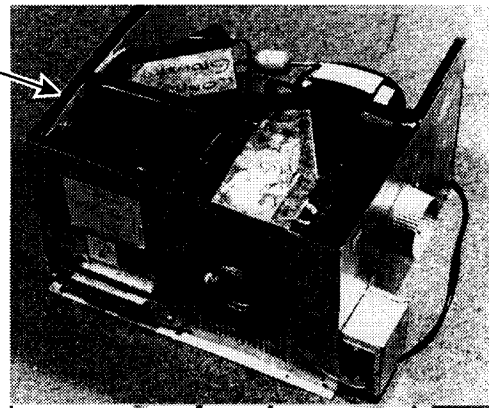

Figure 32
30. Install 61 inches of .5 x .5 foam seal (4744031) to the top of all .5-inch thick insulating panels. Use a continuous piece along the wall separating the evaporator and condenser sections. **See Figure 32.**